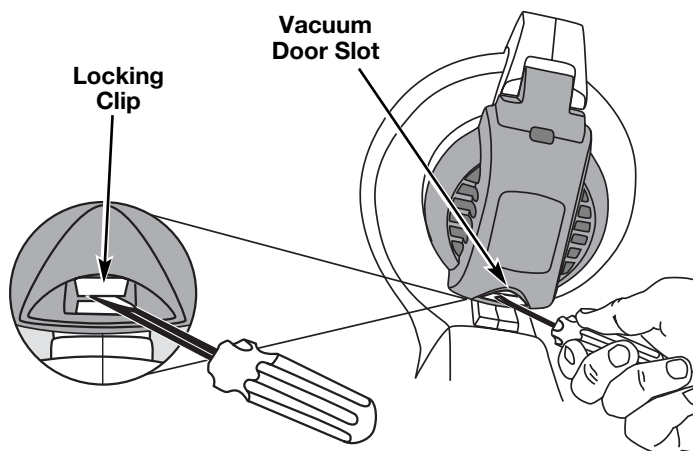

Fig. 3
4. Insert a flat head screwdriver under locking clip, lift upward and open vacuum door (Fig. 3).